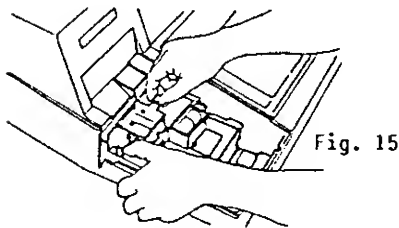
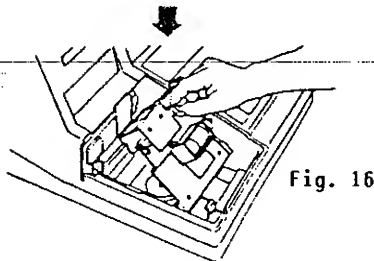

Fig. 15
Fig. 16
3. Open the Cutter Block by pulling it upward while pressing the leftside lever outward. (Fig. 15 and Fig. 16)
3. Open the Cutter Block (Fig. 15 and Fig. 16).